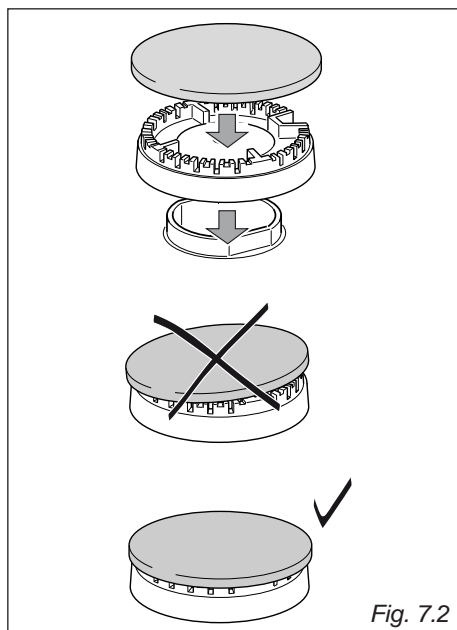

Fig. 7.2
- Assemble the wire racks to the oven walls using the 2 screws (fig. 7.2).